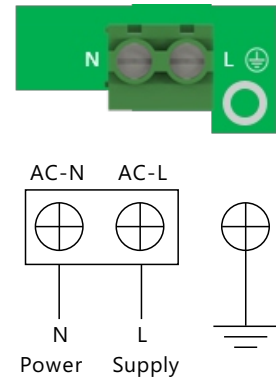

Figure 1
- Connect power cable Live/ L1 and Neutral/ L2 to terminals (see Figure 1) according to L/ N labelled (Neutral/ L2 to N and Live/ L1 to L).